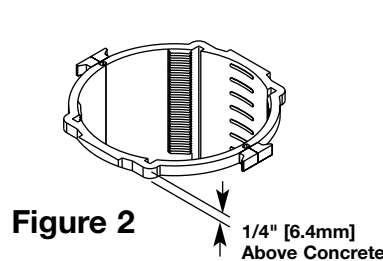

Figure 2
- b. For 3/8" [9.5mm] thick tile, cut top of box 1/4" [6.4mm] above concrete pour (see Figure 2).